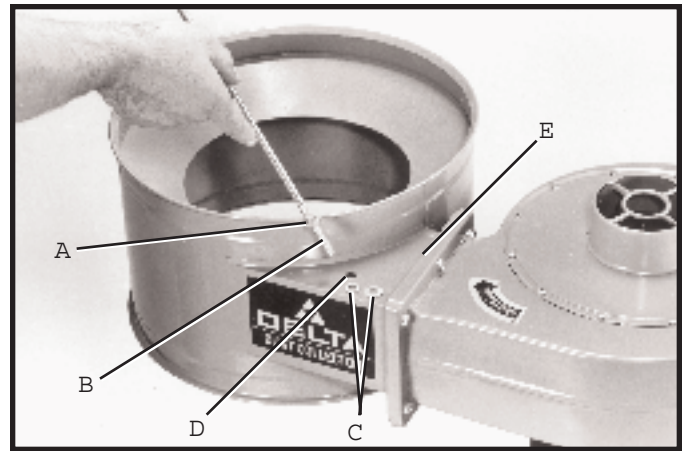

Fig. 10
1. Thread 5/16 hex locknut (A) Fig. 10, onto the end of bag support rod (B). Place lockwasher and flat washer (C) Fig. 10, onto bag support rod (B). Thread rod into hole (D) and tighten locknut (A) against motor and blower assembly (E) to hold support rod (B) upright. Height of support rod can be adjusted after the filter bag is in place.